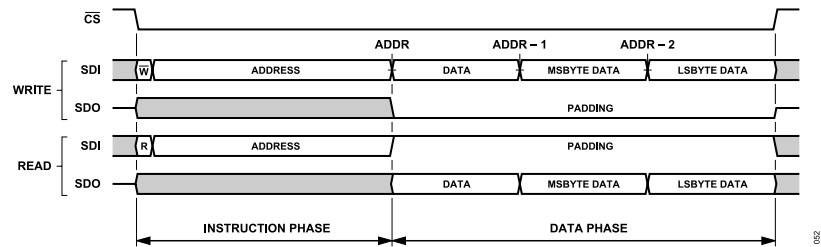
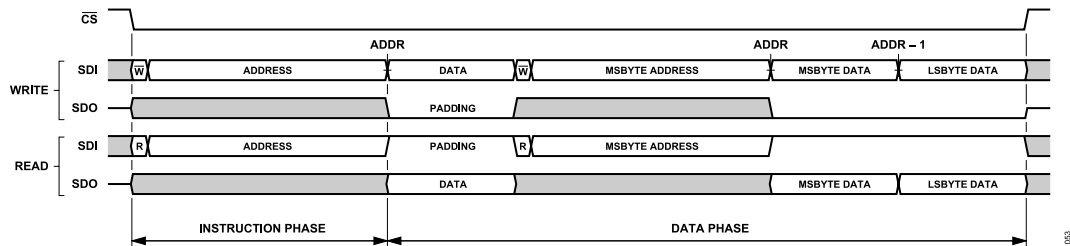
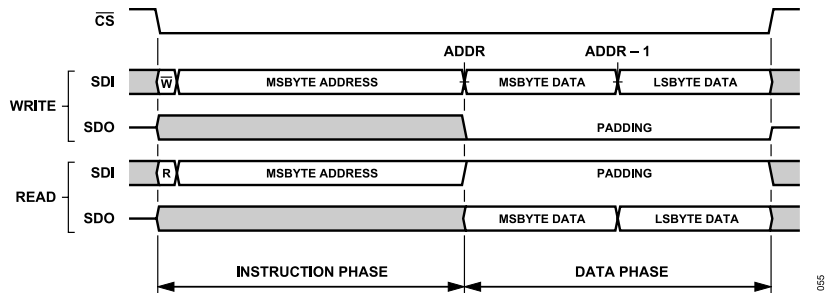
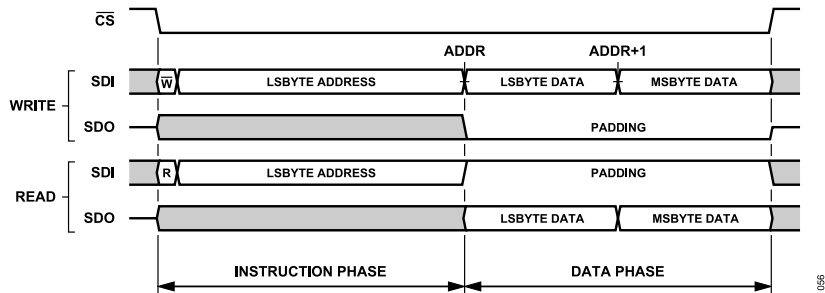

Figure 55. Interface Access Example, Default Interface Configuration, Streaming Mode (ADDR_ASCENSION = 0)
Figure 56. Interface Access Example, Single Instruction Mode (SINGLE_INST = 1), All Other Interface Options Default
Figure 58. Single Instruction Format, $ADDR_ASCENSION = 0$ (Descend), $STRICT_REGISTER_ACCESS = 1$ (Enabled)
Figure 59. Single Instruction Format, $ADDR_ASCENSION = 1$ (Increment), $STRICT_REGISTER_ACCESS = 1$ (Enabled)
Figure 55 illustrates the generic SPI frame formatting for a serial transaction using the default interface configuration. In this example, a portion of the configuration register space consisting of a byte-wide register and a multibyte register is accessed. The address for the byte-wide register resides in the most significant address (ADDR) and the most significant byte of the multibyte register resides in the least significant address of the register segment. By default, the ADDR_ASCENSION property is set to descending, indicating that the address for the most significant register is passed to the host controller during the instruction phase. Depending on the selected operation, the instruction word
In single instruction mode (SINGLE_INST = 1), the memory access controller requires an instruction phase to transmit for each register accessed in a given SPI frame as illustrated in Figure 56. This mode is useful when access to nonadjacent sections of the register space is required in a given SPI frame. Note that, the same access flexibility can be achieved in stream mode by initiating a new SPI frame for each unique register access.
The address ascension selection (ADDR_ASCENSION) bit, as described in previous sections, determines how the internal interface address pointer is updated for each byte of data transmitted to the AD4080 in streaming mode (SINGLE_INST = 0). If using single instruction mode (SINGLE_INST = 1), each register is directly addressed through its own instruction phase as illustrated in Figure 56, and thus, the address pointer is not updated. Regardless of the setting for SINGLE_INST, the ADDR_ASCENSION bit directly impacts the formatting of the SPI frame in terms of selection of the instruction phase starting address and byte order of the data phase payload. This impact is described in greater detail in the Strict Access Selection and Multibyte Registers section as much of the data formatting is dependent on this interface configuration selection. The ADDR_ASCENSION selection bit is located in the Interface Configuration A register (see the Interface Configuration A Register section, Address 0x00).
As indicated in Figure 58, the address counter, by default, automatically decrements ($ADDR_ASCENSION = 0$) such that the most significant byte of the multibyte register is accessed first, followed
As an extension of this concept, when $STRICT_REGISTER_ACCESS = 1$, any SPI frame that accesses a multibyte register as the first entity in the data transfer must correctly set the starting address in the instruction word to correspond to the $ADDR_ASCENSION$ selection. In the case that the address counter automatically decrements ($ADDR_ASCENSION = 0$), the starting address is assigned to the register address for the least significant byte of that multibyte register, and conversely, if configured to increment automatically, the starting address must be set to the register address for the most significant byte. As a result of the change to $ADDR_ASCENSION$ from automatic address decrement (0) to automatic increment (1), Figure 55 and Figure 56 will change as illustrated in Figure 58 and Figure 59 to accommodate the changes in data phase byte order and instruction phase multibyte register start address.